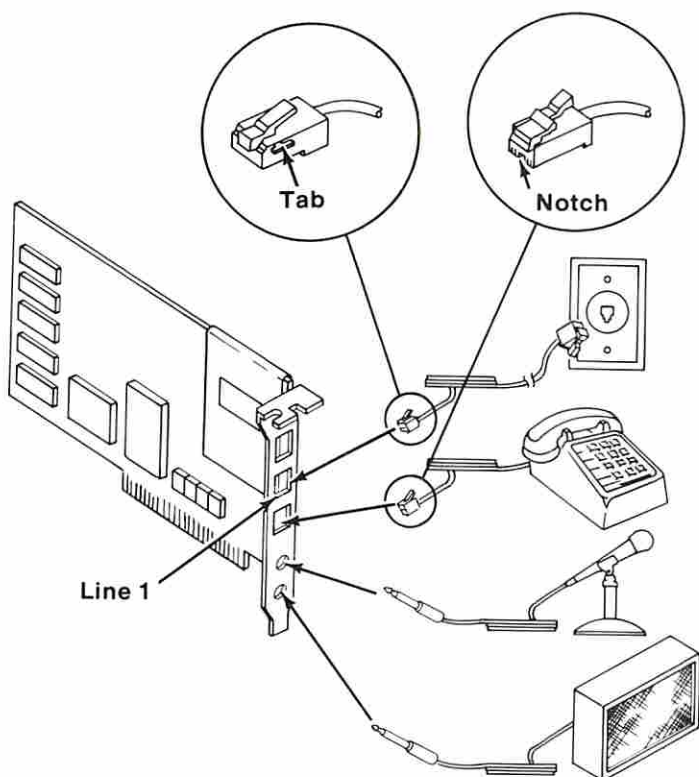

Figure 4. Application Setup
- Refer to Figure 4 on page 7100-5 and perform the Application Setup as follows: